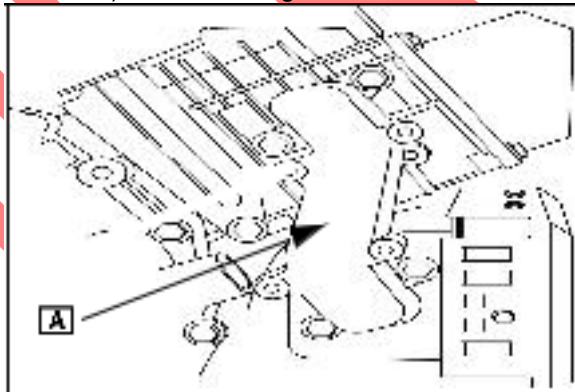

Fig. 15
5. Remove the mounting bolts that secure the exhaust manifold ([A] Fig. 15) and exhaust gaskets.